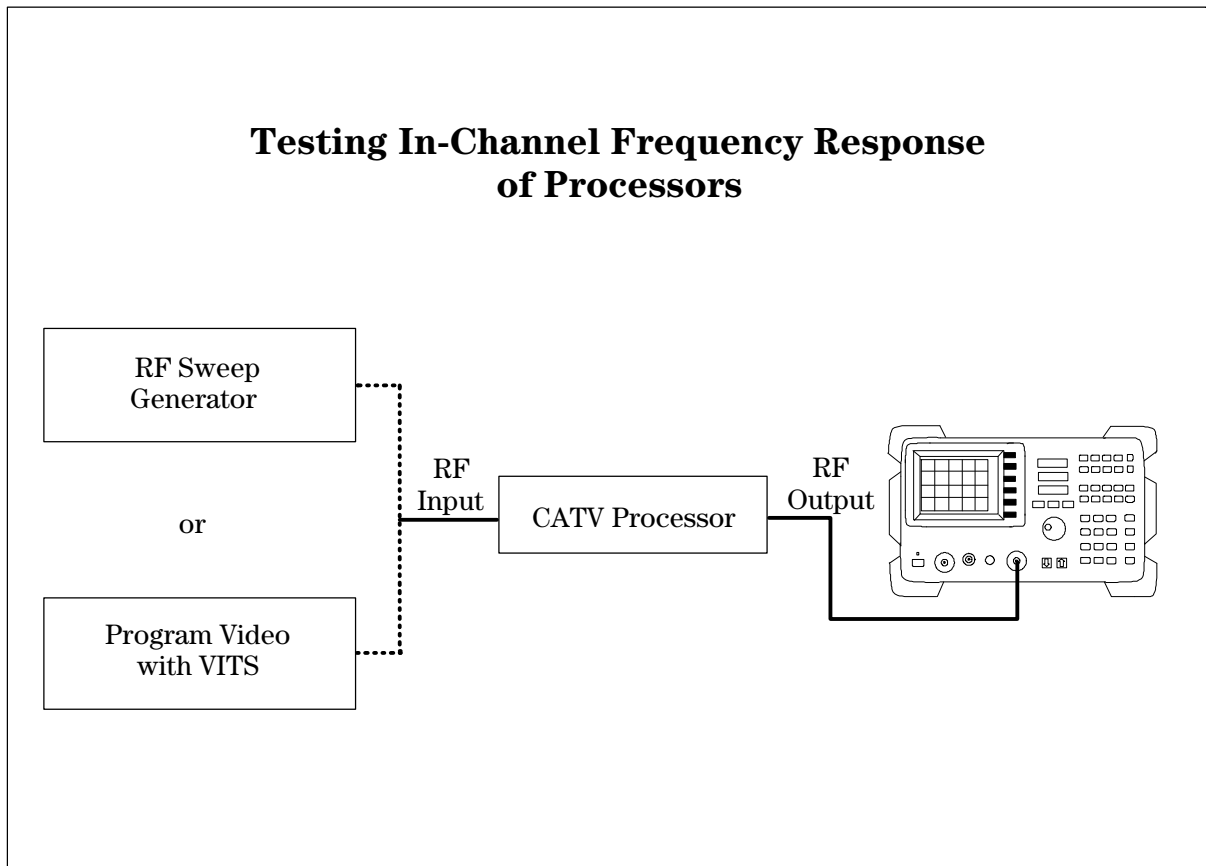

Figure 4.13. Testing in-channel frequency response with direct RF sweep across the channel band or a baseband video signal.
- 1) With the processor disconnected from the cable system, set up as in Figure 4.13. For the RF input, set the sweeper to the level required by the processor. Set the start frequency to 0.5 MHz below the assigned carrier frequency and the stop frequency to 5.0 MHz above the carrier. For channel 4 at 62.25 MHz, start is 47.7 MHz and stop is 53.25 MHz.
- 1) Use the setup of Figure 4.13. For the easiest to interpret signal response, select sinx/x test signal on the video signal generator.